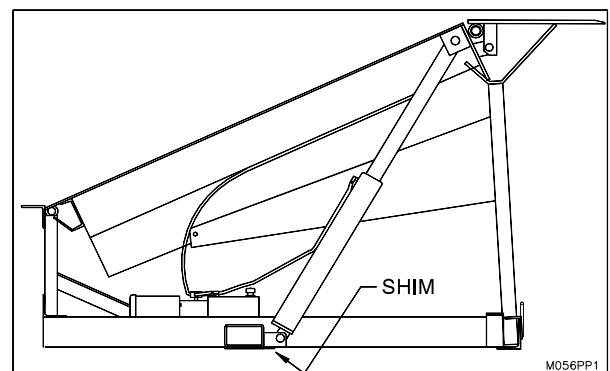

Figure 14: Hydraulic Dock Lift Cylinder Shim
8. ☐ Shim under hydraulic lift cylinder lower clevis plate and weld securely in place. ("Figure 14: Hydraulic Dock Lift Cylinder Shim" on page 12)